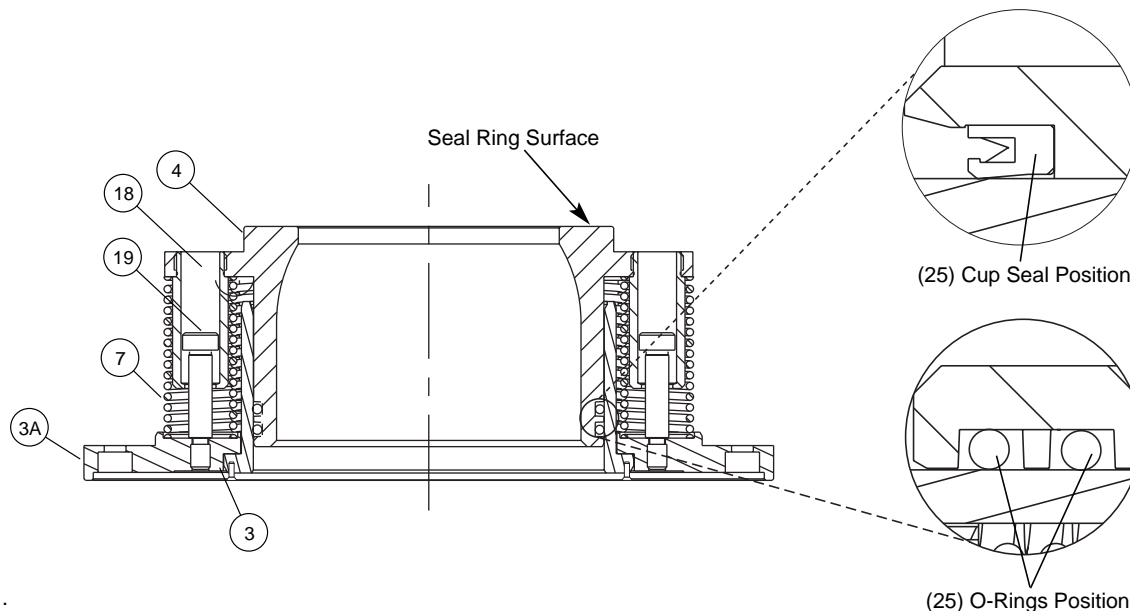

Figure 1.
Place end cap assembly in a press with the flat seal ring surface facing up. See Figure 1. Protect the seal ring surface using a piece of wood and push down on nipple (4) slightly compressing the springs (7).
Lubricate two new o-rings and place them into the o-ring grooves in the nipple. If using a single lip seal, lubricate the new lip seal and place into the groove in the nipple with the sealing lip pointed away from the flat sealing surface of the nipple. Please see Figure 1 for proper lip seal orientation.